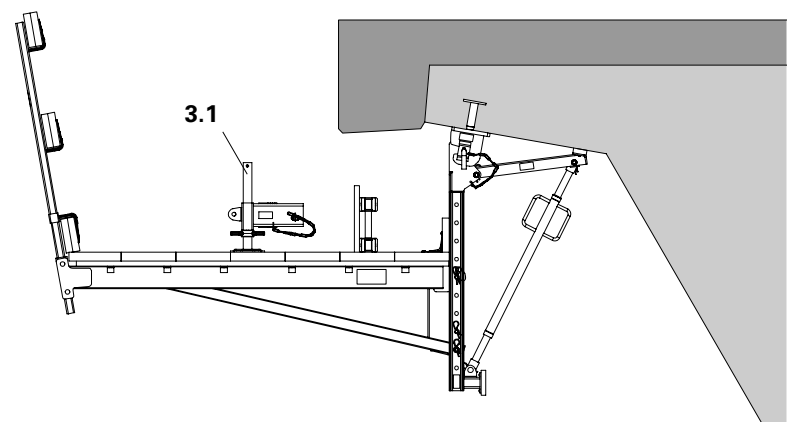

Fig. C3.01
4. Remove Formwork Fixing VGK (3.1) and Internal Stopend. (Fig. C3.01)